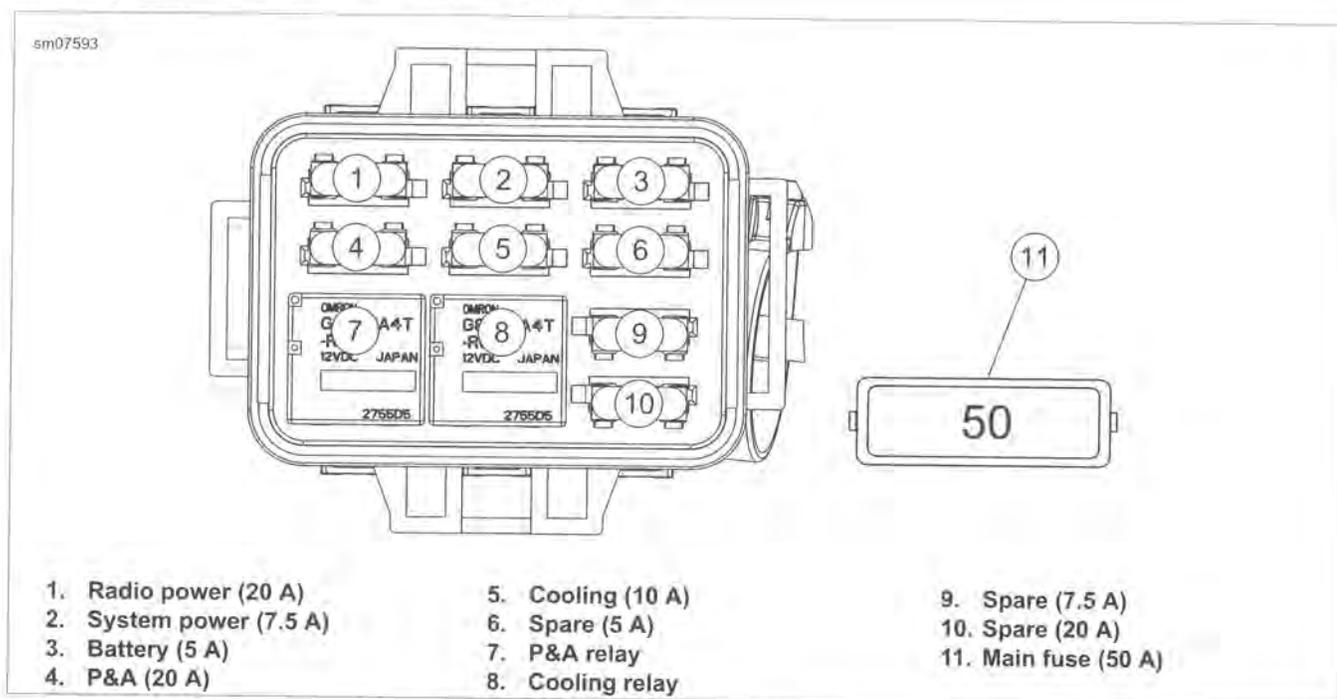

Figure 7-1. Fuses
4. See Figure 7-1. Pull main fuse from main fuse holder.
1. See Figure 7-1. Insert main fuse into main fuse holder.
4. See Figure 7-1. Remove system fuse or relay from fuse block. Replace fuse if the element is burned. Automotive type ATO fuses are used.
1. See Figure 7-1. Install system fuse or relay in fuse block.